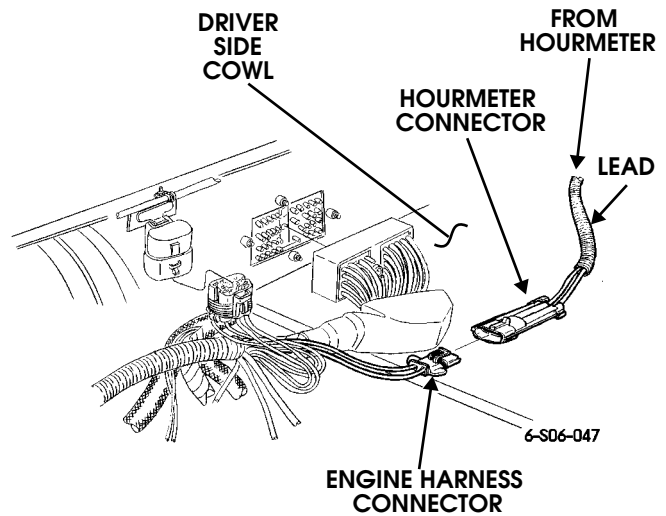

Figure 13-101: Electrical Connector Location
4. Follow lead from hourmeter to electrical connectors and unplug connectors (Figure 13-101).
3. Plug engine harness connector into hourmeter connector (Figure 13-101).